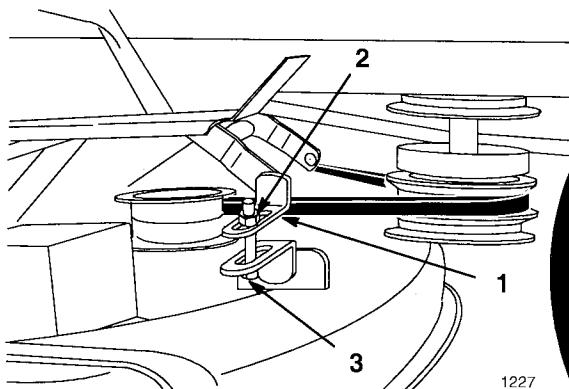

Figure 10
6. To adjust front-to-rear blade level loosen jam nut on front adjustable link. (Fig. 10).
7. Rotate the bolt on front adjustable link to change front-to-rear blade level (Fig. 10).